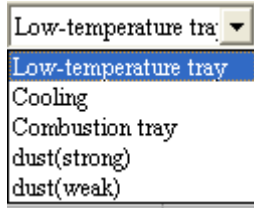

Fig. 4-5-3
- 1) Turn on /turn off the fan: Click “▼”on the right of this button to pop up the option shown in Fig. 4-5-3, select Low-temperature tray/ System radiation/ combustion code wheel/ Dust (strong)/ Dust (weak), click “Turn on the fan” to check the strong (weak)-grade control of the low-temperature furnace fan/ radiant fan of the dust hose system/ cooling fan of the combustion code wheel/ dust exhauster to see if they are working in order.